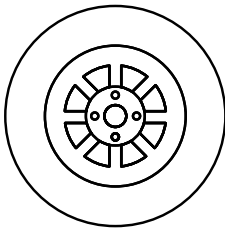

Fig. 2
Using a 3/16th socket key, undo all 8 bolts as per **Fig 2** below. Before undoing Hex screws, ensure tyre is deflated. When all screws have been removed, remove rim half away from the wheel **Fig 3**. The inner tube will now be exposed for re-fitment of new inner tube. Slightly inflate the tube and insert into tyre.
To re-assemble, replace tyre on the front side of the rim and line valve up with indentation on rim as arrowed in **Fig 3**. Make sure the tyre is seated correctly and then insert back half of rim on the wheel as per **Fig 2**. Again make sure the indentation on the back rim lines up with the valve. You can now gradually re-tighten all 8 screws. All screws need to have a thread locking compound (**Loctite 277™**) or equivalent.
7. Only use the designated Tie-down points located on wheelchair. Two front, two rear. (Fig. 2)
Only use the designated Tie-down points on the wheelchair. (Fig. 2).
(Fig. 2)